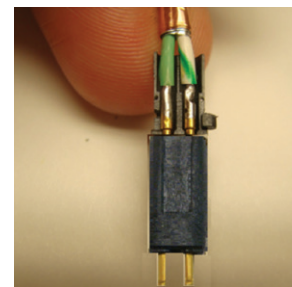

Figure 60: Attaching rear insulator
- One pair at a time, place the black rear insulator on the back of the contacts (Figure 60).